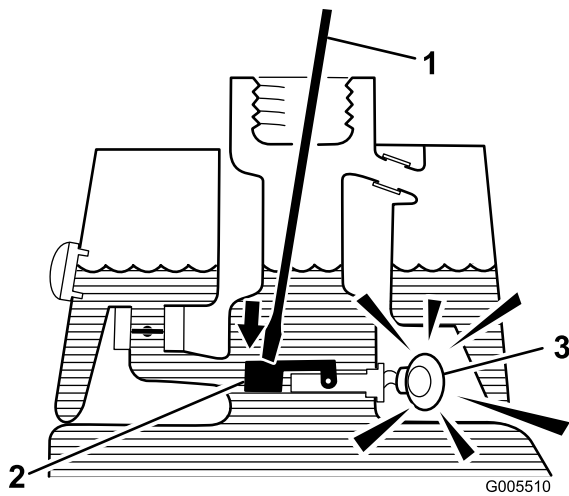

Figure 31
- Insert a clean rod or screwdriver into the tank neck and gently push down on the switch float (Figure 31). The alarm should sound after the one-second delay.